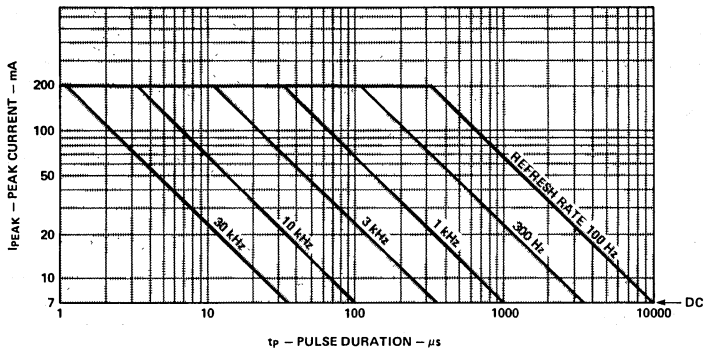

Figure 1. Maximum Allowed Peak Current vs. Pulse Duration. Derate derived operating conditions above  $T_A = 50^\circ\text{C}$  using Figure 2.
- Maximum allowed drive conditions for strobed operation are derived from Figures 1 and 2. See electrical section of operational considerations.